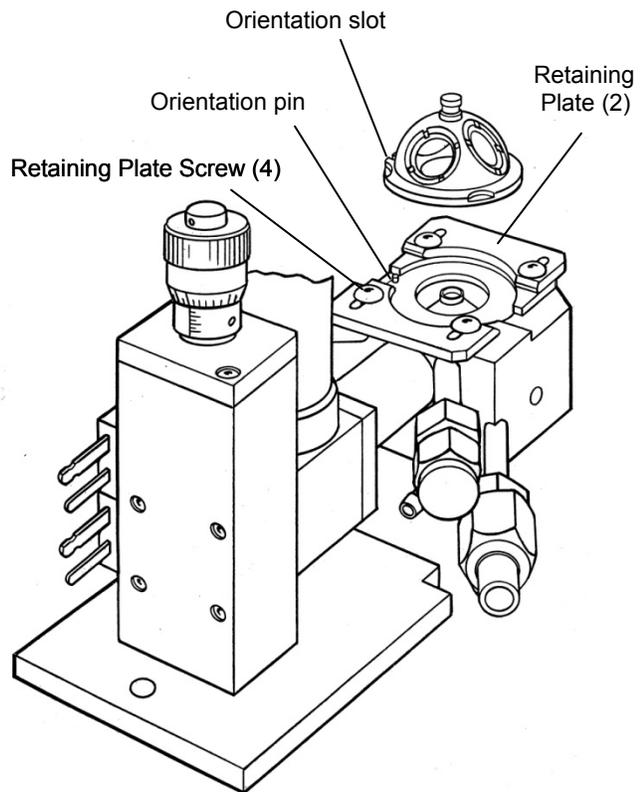

Figure 23 • Installing the CHC Dome
- Install the dome making sure that the orientation slot on the dome engages the orientation pin on the CHC (Figure 23).